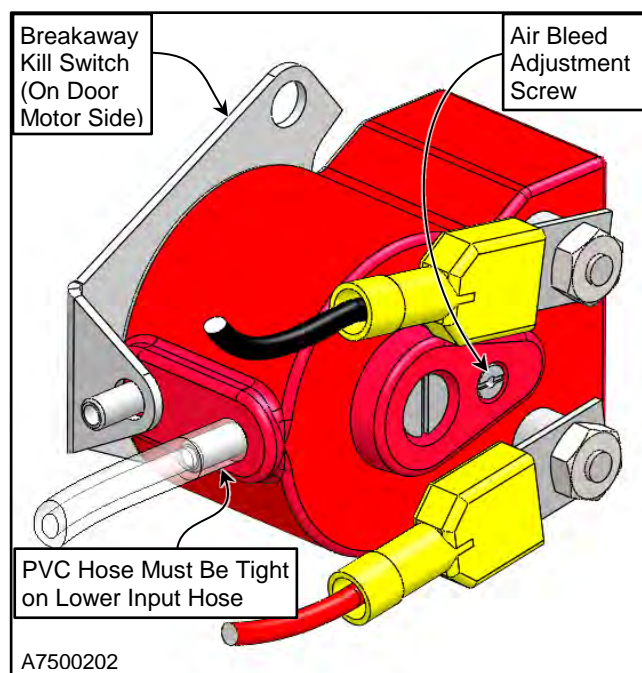

Figure 42
1. Make sure the clear PVC hose is tight on the air input post so that air leakage cannot occur and vibration will not cause the hose to fall off. Make sure the hose is not kinked. (See Figure 42)
2. The air bleed has been set at the factory and should not require adjustment. To check the air bleed, turn the air bleed adjustment screw, located on the front and back of the switch, fully clockwise but do not over tighten. Then turn the screw counterclockwise one full turn. (See Figure 42)
3. The air bleed has been set at the factory and should not require adjustment. To adjust the air bleed, turn the air bleed adjustment screw located on the front and back of the switch fully clockwise, but do not over tighten. Then turn each screw counterclockwise one full turn. (See Figure 42)